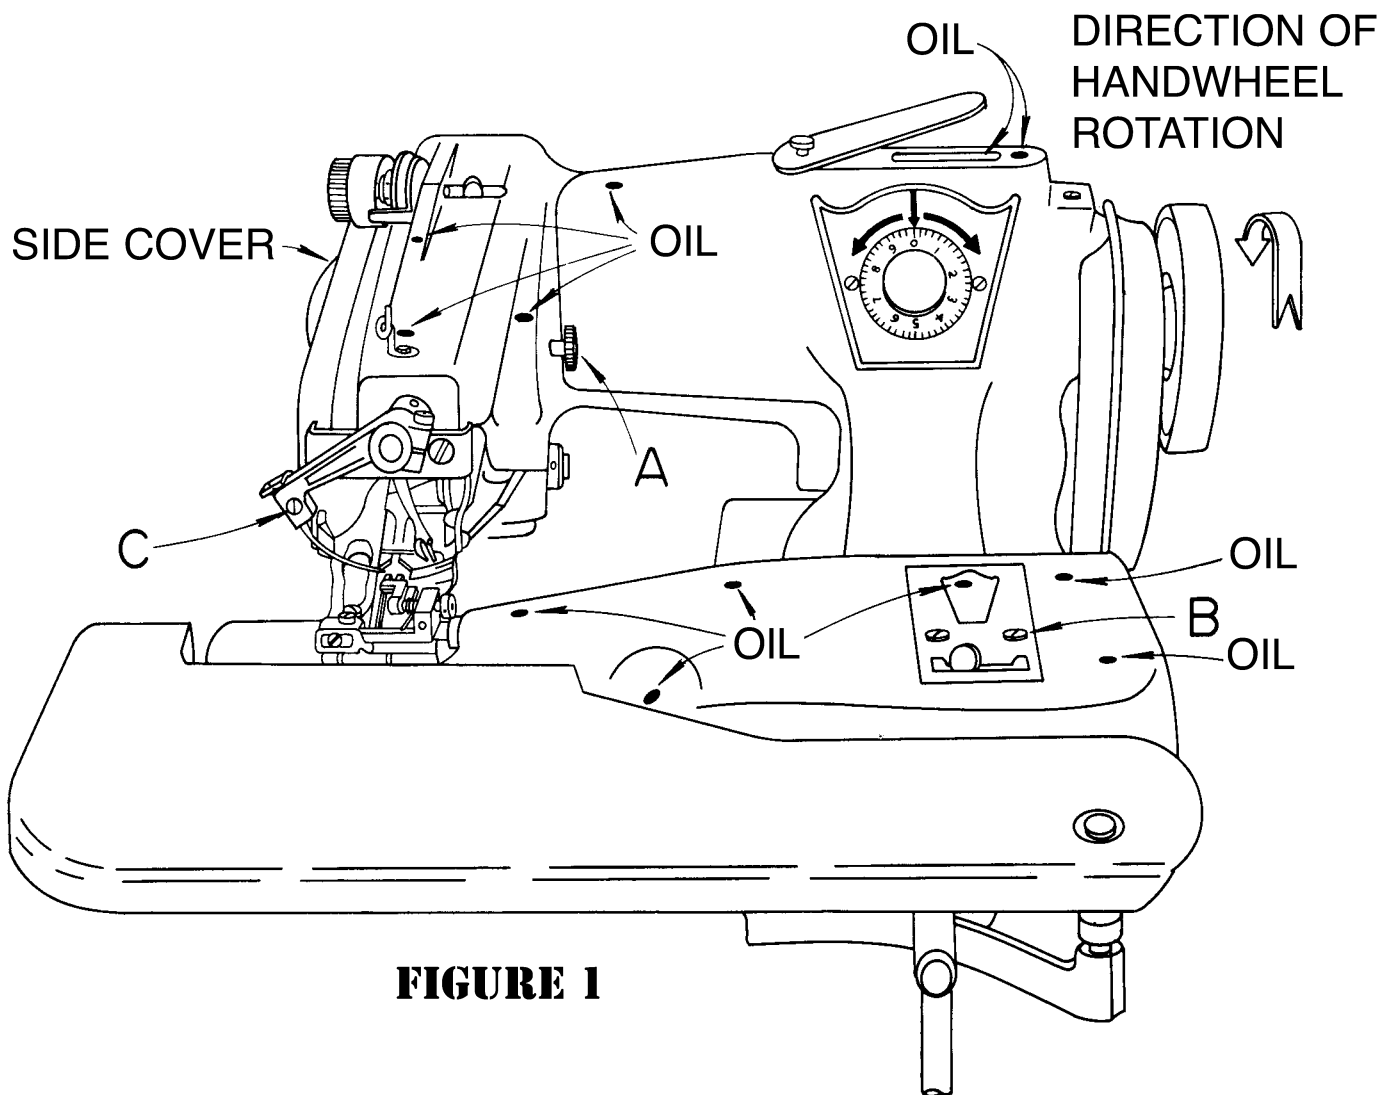
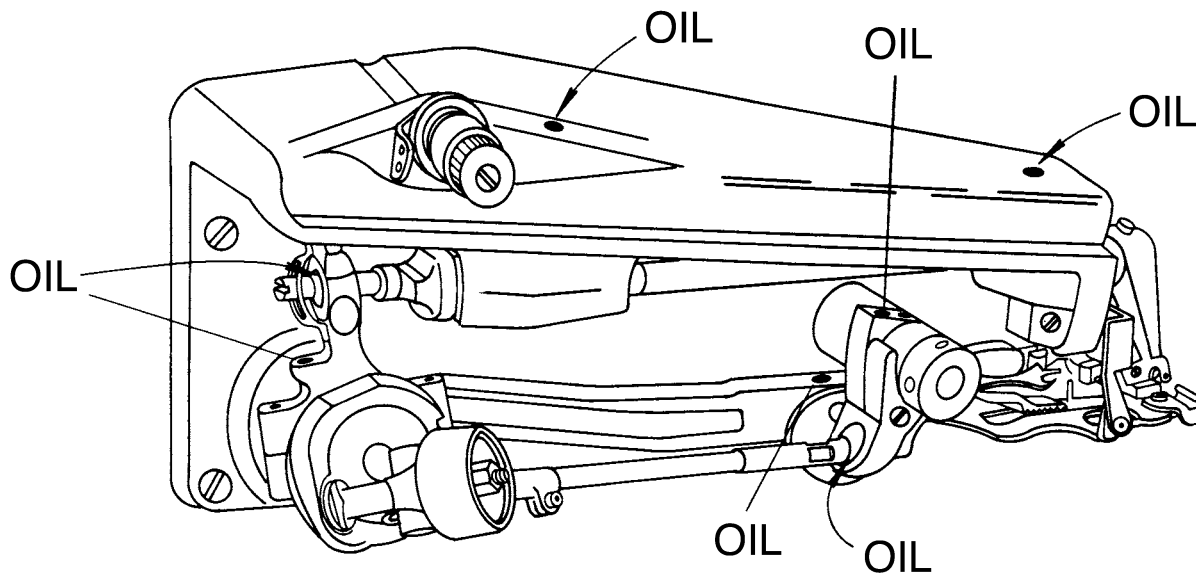

FIGURE 1
FIGURE 2
2. The machine should be mounted so as to insure that the direction of rotation of the handwheel is away from the operator. In other words, the handwheel rotates in a clock-wise direction when looking at the face of the wheel pulley, as shown by the arrow in **Figure 1**.
2. Place a few drops of oil at all the points shown on the oiling chart in Figure 1. Remove the side cover shown on Figure 1 by loosening the cover attaching bolt "A". Then place a few drops of oil at all the points shown on the oiling chart in Figure 2.
3. In production use, the machine should be oiled on a daily basis in accordance with the instructions in item 2 above.
- b. The lifter rod itself may be moved from left to right as follows: Loosen the screw attaching the small window plate on top of the feed frame (see Figure 1, item "B") and swing this plate out of the way. By inserting a screw driver into the window, the two screws which lock the lifter rod to the lifter rod bracket may be loosened. Move the rod to the desired location and tighten the two lifter rod bracket screws. Replace the window plate in its proper location and tighten the window plate screws.
2. Remove the side cover by loosening the attaching screw (**item "A" in Figure 1**) and observe the machine from the rear.
- b. Loosen the needle clamp screw (**item “C” in Figure 1**), slide the clamp rearward sufficiently to release the old needle, and remove and discard it. Insert the new needle and push it up into the groove of the needle lever as far as it will go. Make sure that the flat on the shank of the needle faces rearward and the needle is properly seated in the groove. Tighten the needle clamp screw and turn the handwheel slowly making sure that the needle passes lightly over the needle guide on the presser foot and clears the looper. Readjust the needle penetration as described in a previous section, prior to resuming operation.
- b. Loosen the needle clamp screw (**item “C” in Figure 1**), slide the clamp rearward sufficiently to release the old needle, and remove and discard it. Insert the new needle and push it up into the groove of the needle lever as far as it will go. Make sure that the flat on the shank of the needle faces rearward and the needle is properly seated in the groove. Tighten the needle clamp screw and turn the handwheel slowly making sure that the needle passes lightly over the needle guide on the presser foot and clears the looper. Re-adjust the needle penetration as described in a previous section, prior to resuming operation.